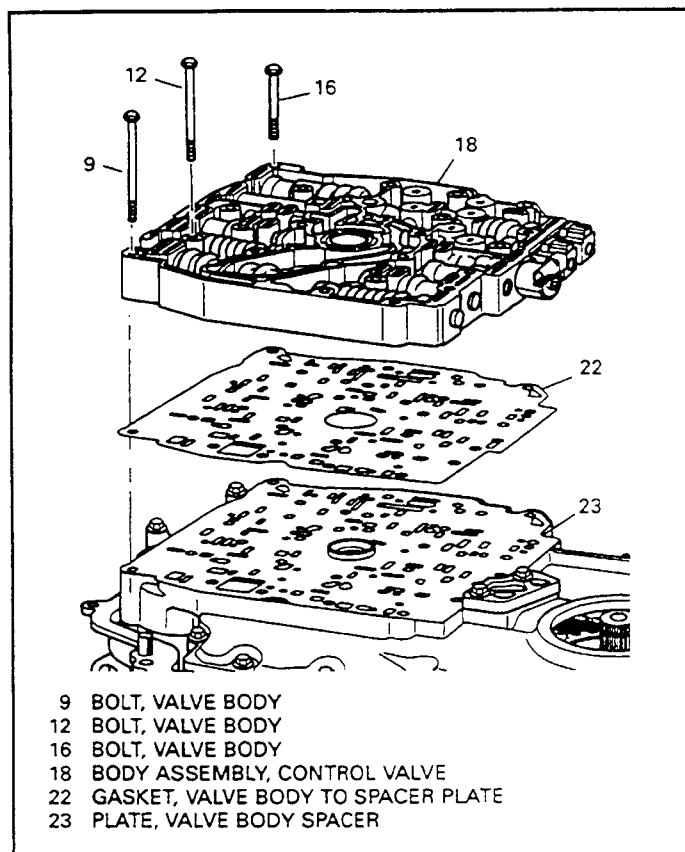

Figure 174
11. Install a new valve body to spacer plate gasket on top of the spacer plate (See Figure 174).
12. Install the valve body assembly and start the three bolts as shown in Figure 174.